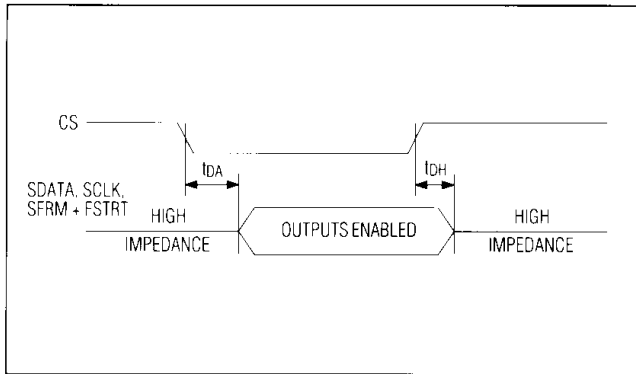
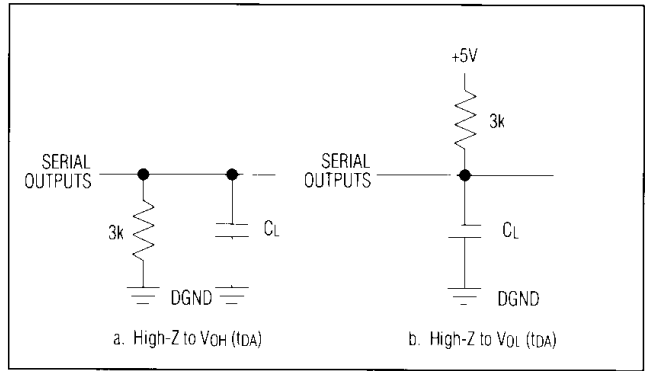

Figure 3. Data-Access + Data-Hold Timing
Figure 4. Load Circuits for Data-Access Time
**Note 5:** Control inputs specified with  $t_r = t_f = 5ns$  (10% to 90% of +5V) and timed from a voltage level of 1.6V. Output delays are measured to +0.8V if going low, or +2.4V if going high. For a data-hold time, a change of 0.5V is measured. See Figures 4 and 5 for load circuits.
See Figure 3 for the data-access and data-hold timing diagram if several devices share the serial bus. The equivalent load circuits for data-access and data-hold timing are shown in Figures 4 and 5.